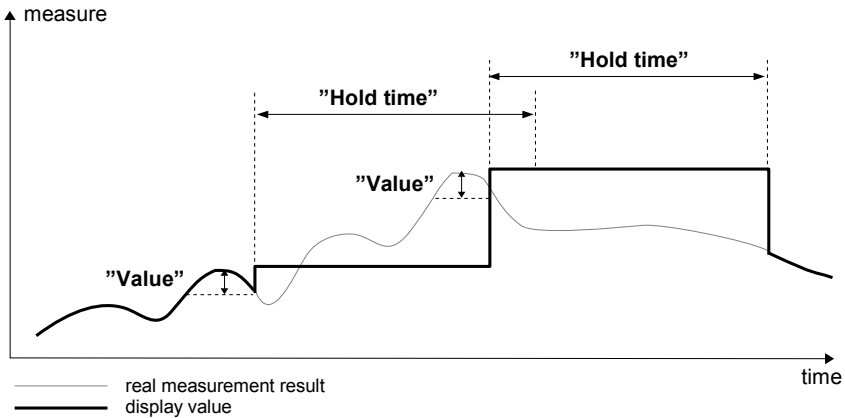

Fig. 7.43. Process of peak detection
- **peak detect** – the function which allows to detect and visualize peak values in a measured signal. Detection of the peak value can be performed if the measured signal raises and drops (or the opposite) in value, which is settable by the user. Next, the detected value can be held for a period of time settable by user. If during the time when a peak is detected, a new peak is detected, then the peak value is updated and the time of hold is reset. When this time elapses, or no peak is detected, the device will display the current value of the signal (see **Fig. 7.43**). After selecting this option, the **Filter conf.** button will appear which contains the configuration parameters of this filter: